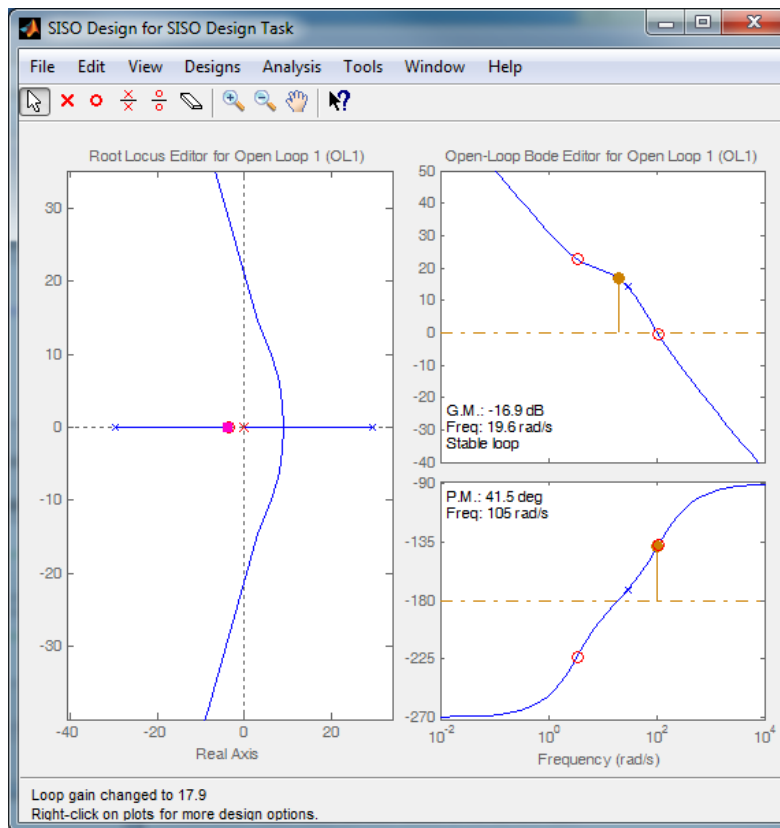

Figure 6 Graphical Tuning
8. Use the Graphical Tuning tab to further tune your PID parameters (Figure 6).